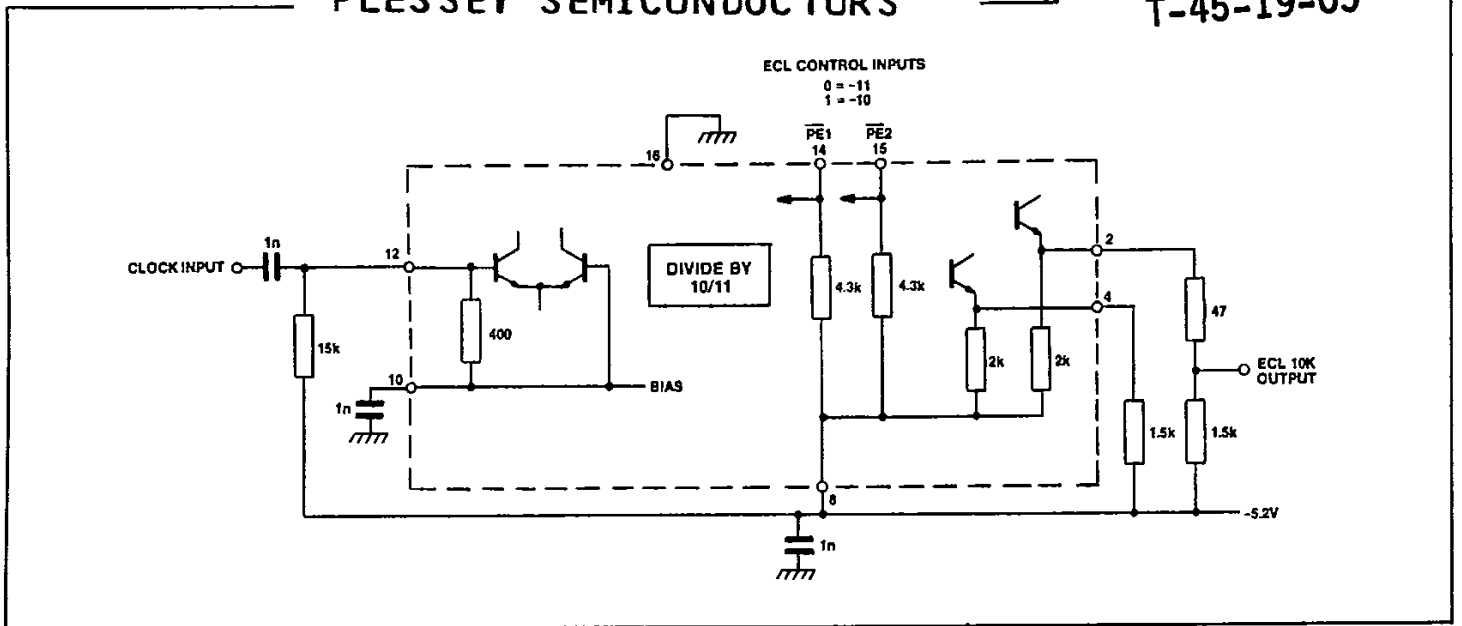

Fig.7 Typical application showing interfacing
4. The outputs are compatible with ECL II but can be interfaced to ECL 10K as shown in Fig.7.